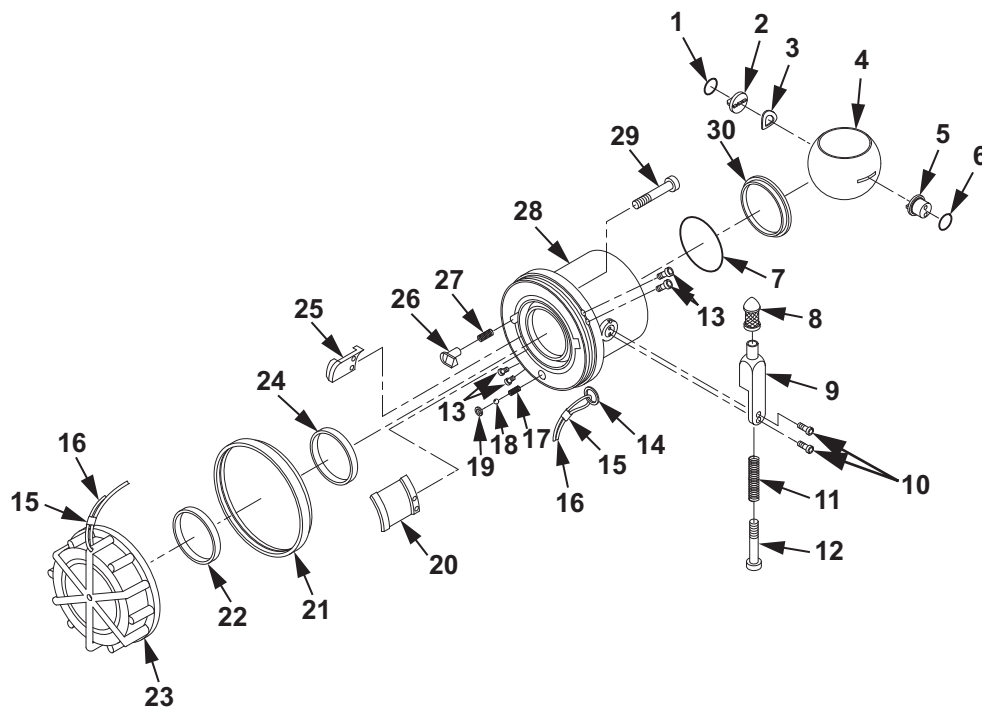

Figure 3. Valved Dry-Break Coupling Assembly.
2. Inspect bumper (Figure 3, Item 21) for cracks, tears or cuts. If cracks, tears or cuts are found, replace with a serviceable like item.
3. Inspect dust cap (Figure 3, Item 23) for cracks or damage. If cracks or damage is found, replace with a serviceable like item.
The purpose of ball bearing (Figure 3, Item 18) is to provide electrical continuity between mating surfaces.
4. Inspect ball bearing (Figure 3, Item 18) located in face of coupling for damage. Push the ball bearing (Figure 3, Item 18) in and ensure it pops back into place. If damage is found or ball bearing (Figure 3, Item 18) does not pop back into place, replace coupling (Figure 3, Item 28).
5. Inspect control arm (Figure 3, Item 9) for cracks or damage. If cracks or damage is found, replace with a serviceable like item.
If it was necessary to replace lockout pin (Figure 3, Item 26), perform the following installation steps.
1. Install screw (Figure 3, Item 29) into coupling (Figure 3, Item 28).
2. Install spring (Figure 3, Item 27) into coupling (Figure 3, Item 28) and over screw (Figure 3, Item 29).
3. Install lockout pin (Figure 3, Item 26) into coupling (Figure 3, Item 28).
4. Tighten screw (Figure 3, Item 29) until ramp edge of lockout pin (Figure 3, Item 26) is even with or slightly below the adjacent ledge of coupling (Figure 3, Item 28).
If it was necessary to replace bumper (Figure 3, Item 21) or lugs (Figure 3, Item 20, 25), perform the following installation steps.
5. Position lug (Figure 3, Item 20) or lug (Figure 3, Item 25) in coupling (Figure 3, Item 28).
6. Install two screws (Figure 3, Item 13) into coupling (Figure 3, Item 28).
7. Using torque wrench and screwdriver bit, torque screws (Figure 3, Item 13) to 6 in. lb (0.70 N•m).
8. Position bumper (Figure 3, Item 21) with thin lip seal end facing away from coupling (Figure 3, Item 28).
9. Install bumper (Figure 3, Item 21) on coupling (Figure 3, Item 28).
10. Lightly lubricate new seal (Figure 3, Item 24) with petrolatum and install new seal (Figure 3, Item 24) into coupling (Figure 3, Item 28).
11. Loop one end of 18 in. cable (Figure 3, Item 16) through sleeve (Figure 3, Item 15), dust cap (Figure 3, Item 23) and back through sleeve (Figure 3, Item 15).
12. Using pliers, crimp sleeve (Figure 3, Item 15).
13. Loop other end of 18 in. cable (Figure 3, Item 16) through sleeve (Figure 3, Item 15), split ring (Figure 3, Item 14) and back through sleeve (Figure 3, Item 15).
14. Using pliers, crimp sleeve (Figure 3, Item 15).
15. Lightly lubricate new seal (Figure 3, Item 22) and install new seal (Figure 3, Item 22) into dust cap (Figure 3, Item 23).
16. Install dust cap (Figure 3, Item 23) on coupling (Figure 3, Item 28).
17. Lightly lubricate new O-ring (Figure 3, Item 6) with petrolatum and install new O-ring (Figure 3, Item 6) on control arm shaft (Figure 1, Item 5).
18. Place spring (Figure 3, Item 11) on screw (Figure 3, Item 12).
19. Install screw (Figure 3, Item 12) into control arm (Figure 3, Item 9).
20. Install knob (Figure 3, Item 8) on control arm (Figure 3, Item 9).